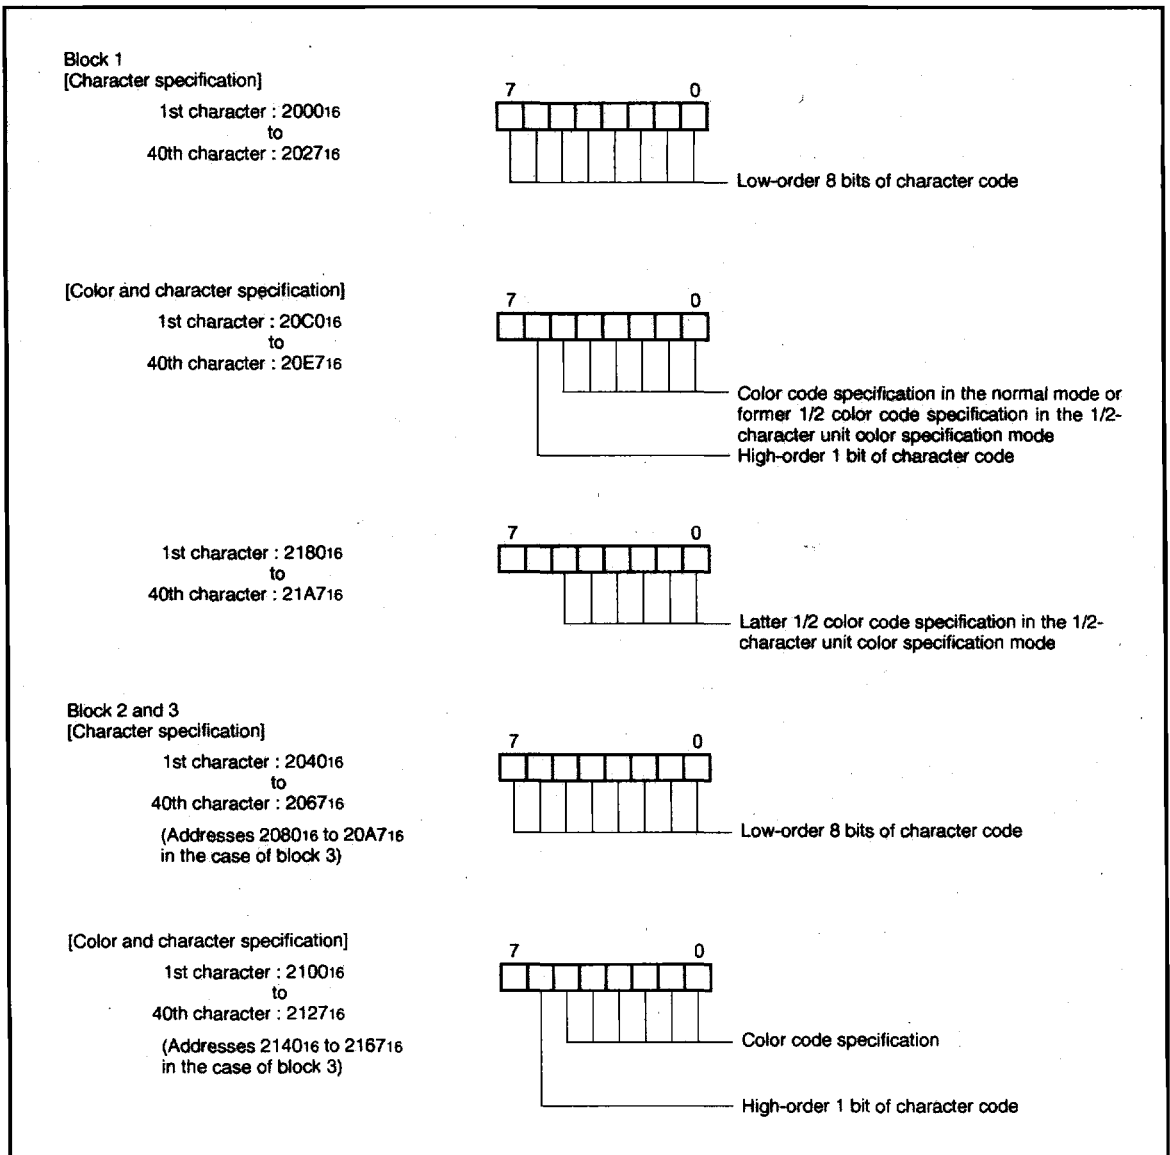

Fig. 31 Structure of CRT display RAM
For example, to display one character at the first character position (the left edge) of block 1, write the character code to bit 6 of address 20C0₁₆ and to address 2000₁₆, and write the color code to the lower-most 6 bits (bits 0 to 5) of address 20C0₁₆. For details of the color codes, see section (4) Color codes. The structure of the CRT display RAM is shown in Fig.31.